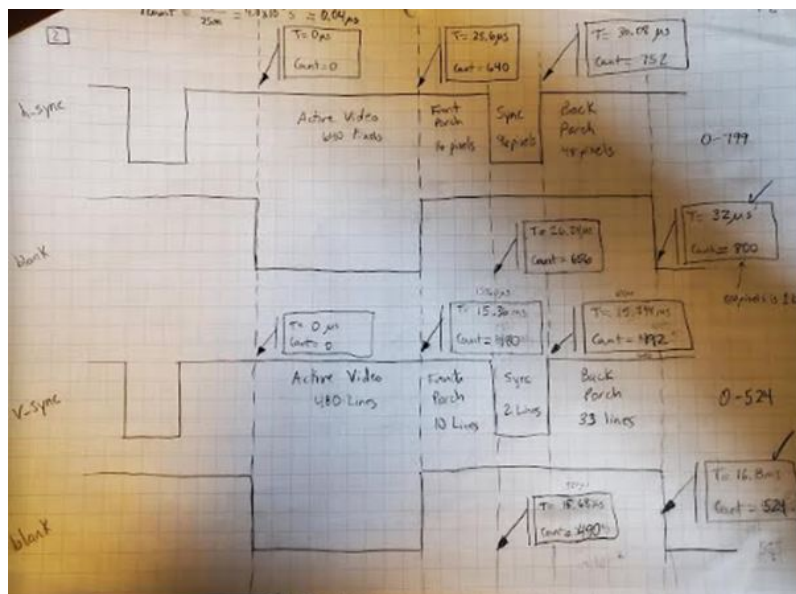

Figure 12: VGA Timing
The next thing I needed to do was verify that the VGA timing for the front porch, back porch and sync were working properly, which can be seen in Figure 12. The HDMI signals were taken directly from source (3) and past labs.